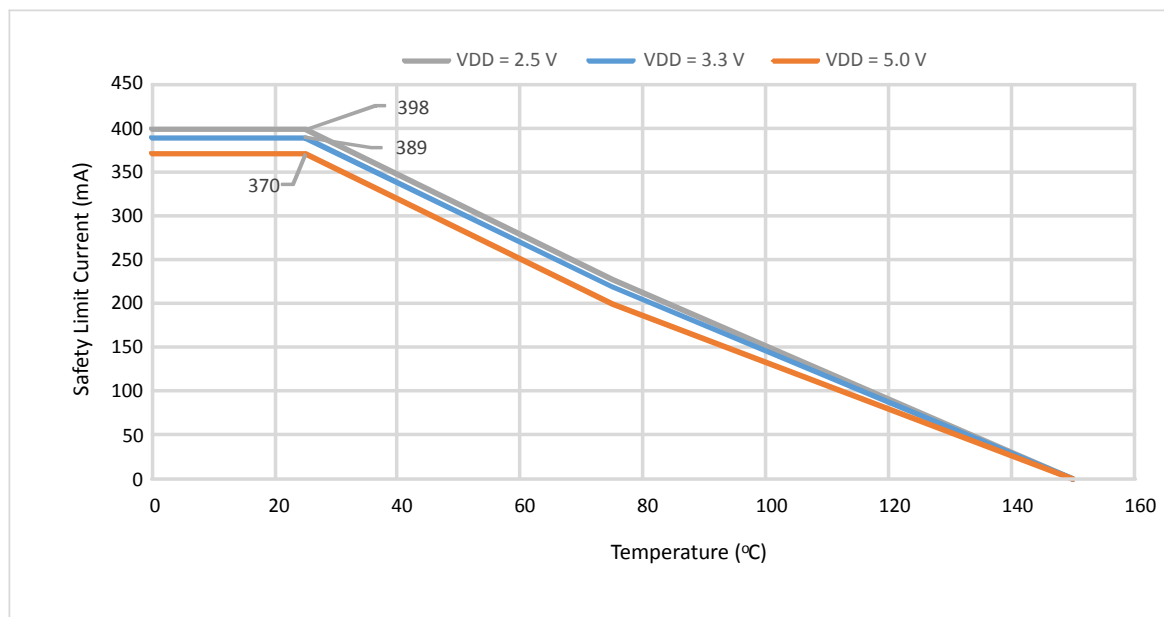

Figure 4.2. (QSOP-20) Thermal Derating Curve, Dependence of Safety Limiting Values with Case Temperature per VDE 0884
1. Maximum value allowed in the event of a failure; also see the thermal derating curve in [Figure 4.2 \(QSOP-20\) Thermal Derating Curve, Dependence of Safety Limiting Values with Case Temperature per VDE 0884 on page 17](#).